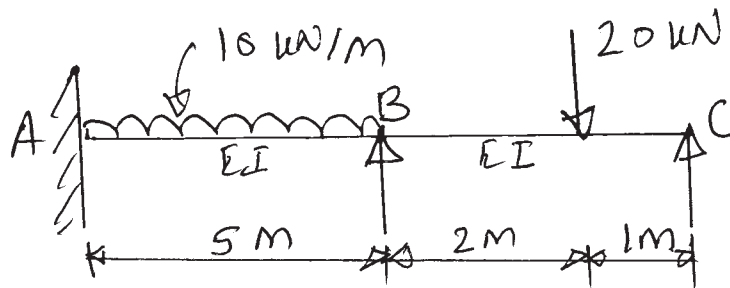

Fig. No. 7
- a) Calculate support moment by using moment distribution method for a beam as shown in Fig. No. 7.